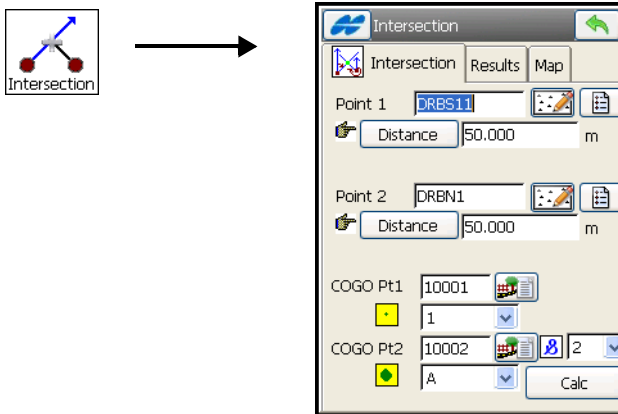

Figure 10-5. Intersection
1. On the **Intersection** screen (Figure 10-5), select the points for the task from map or from the list.